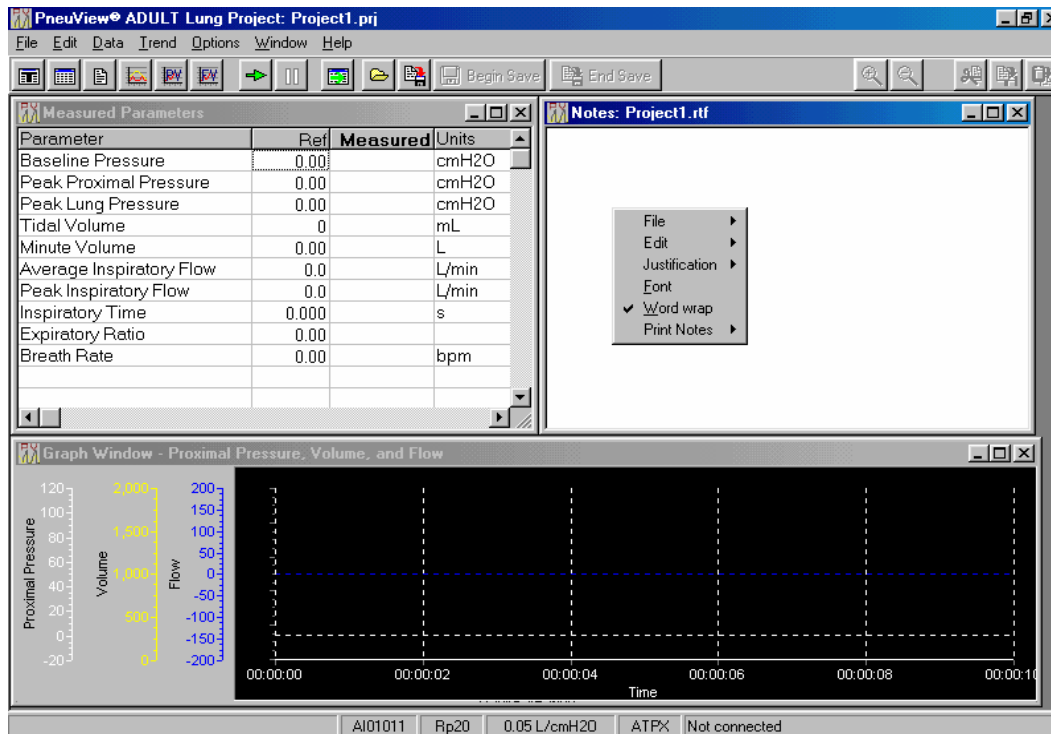

Figure 7 – Notes Window Menu
B. *Notes*. The Notes window is a text editor and provides capabilities for entering, editing, and saving text. Right clicking the mouse in the notes window can access a menu. The menu commands are File, Edit, Justification, Font, Word Wrap, and Print Notes. Standard sub-menus appear when selecting these commands. See Figure 7 for Notes Window and Menu.